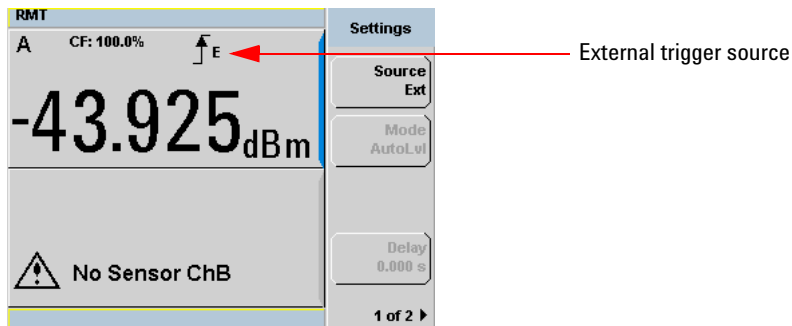
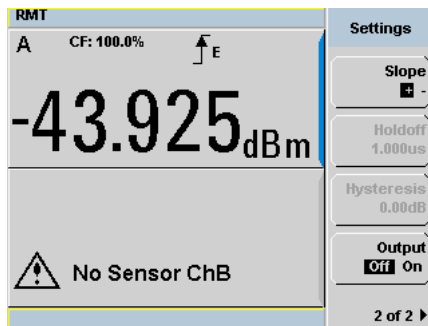

Figure 2-21 Trigger setting menu 1 of 2
Figure 2-22 Trigger setting menu 2 of 2
- 7 Press **Settings** to configure the remaining trigger parameters. The trigger **Settings** menu consists of two pages. Figure 2-21 shows page 1 and Figure 2-22 shows page 2.